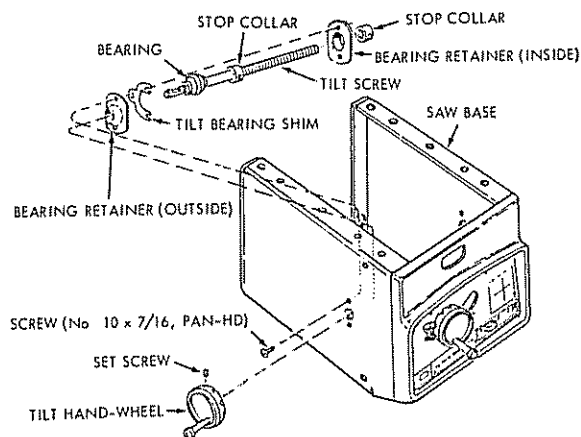

Figure 74
**NOTE:** Figures 74 and 75 show only the saw base. The table and cradle have been left out for clarity.
### 1. Removal of Parts from Left-Hand Side. (See figure 74.)
- Loosen the set screw in tilt hand-wheel with a 5/32-inch hex-L wrench and remove the tilt hand-wheel from end of tilt screw. (See figure 74.)